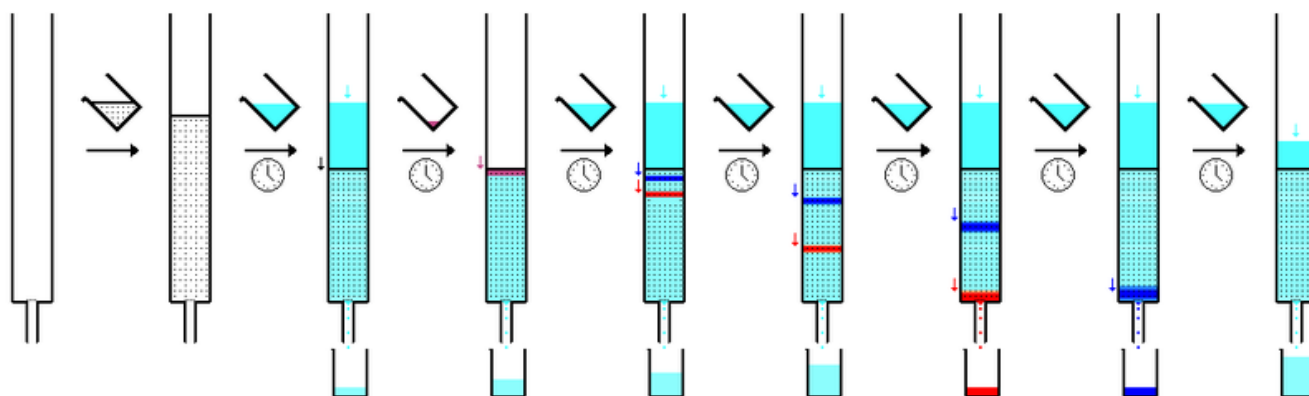

Figure 25. Stages of a column chromatography experiment.
The principle is in fact very similar to TLC, except that this method is performed in 3D and “upside down” (Figure 25). In practice, it often looks analogous to the diagram below:
- 3) Carefully and evenly deposit your mixture as a thin layer on top of the silica layer without disturbing it (purple layer in Figure 25).